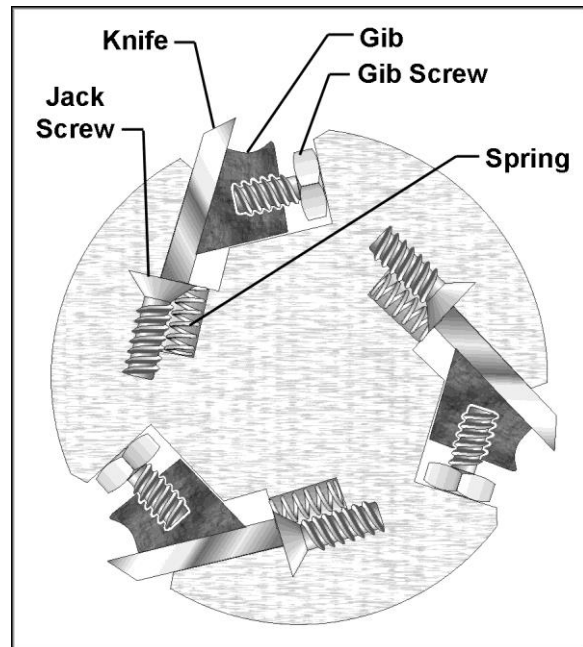

Figure 16
Refer to Figure 16.
4. Clean the gib and the knife slot. Sandwich new knife and gib together and drop into slot. Make sure the knife is oriented properly as shown in Figure 16.